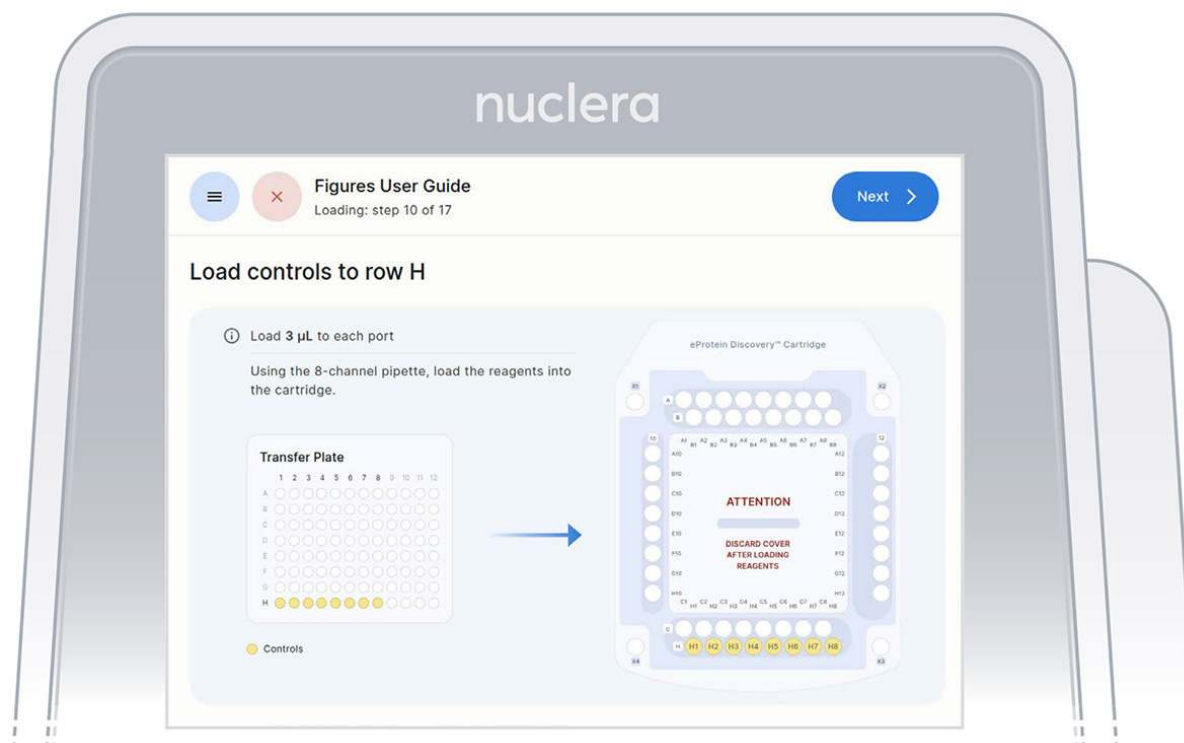

Figure 21: Loading of the reagents onto row H of the cartridge
- Load 8x fresh p20 pipette tips and aspirate 3 μ L of the reagents from the transfer plate wells H1-H8 into ports H1-H8 of the cartridge (Figure 21).